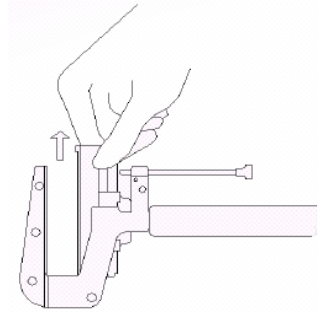

Fig. 6
5. When the instrument is withdrawn, turn the shifting nut counterclockwise until the gap between the anvil and the staple cartridge reaches the maximum. Pull out the retaining slide pin and remove the staple cartridge. (Fig. 6)